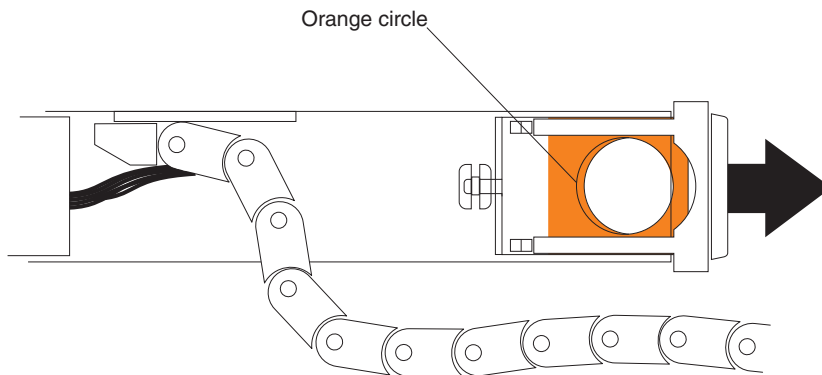

Figure 66. Horizontal mounting bracket that connects to the drive drawer
- b. Disconnect the right cable chain mounting bracket from the drive drawer. Hold the orange handle (See Figure 66), and pull the mounting bracket out of the drive enclosure.